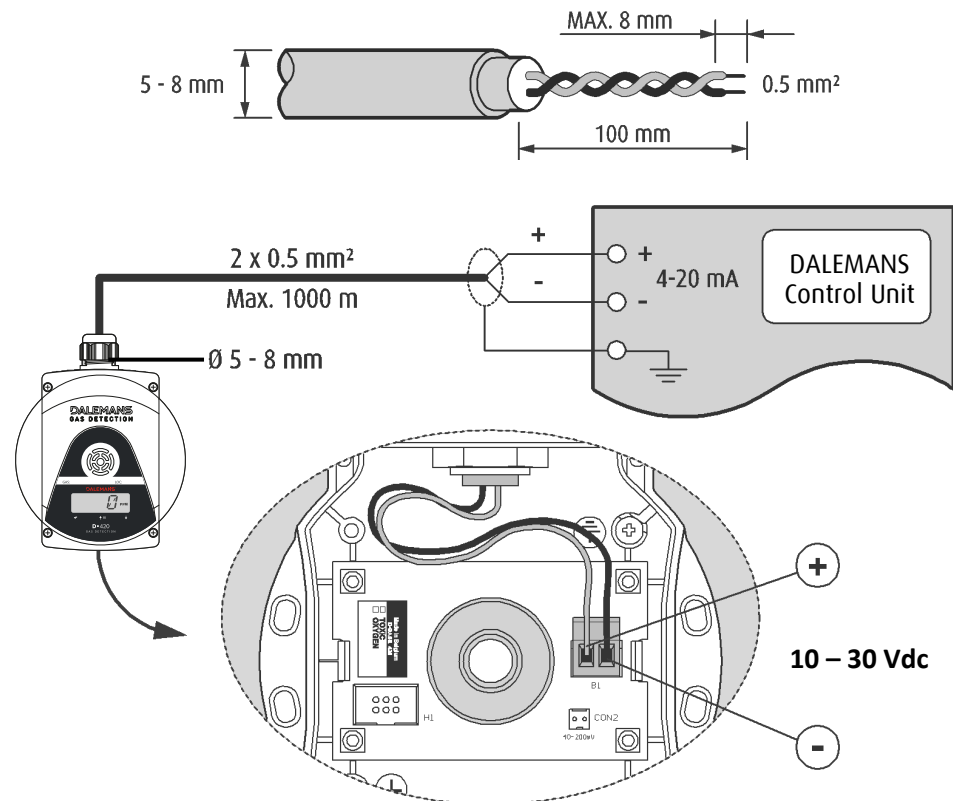

Figure 7: 2-wire connection to a DALEMANS control unit
- Connect the wires to the B1 connector according to Figure 7 or Figure 8 below.